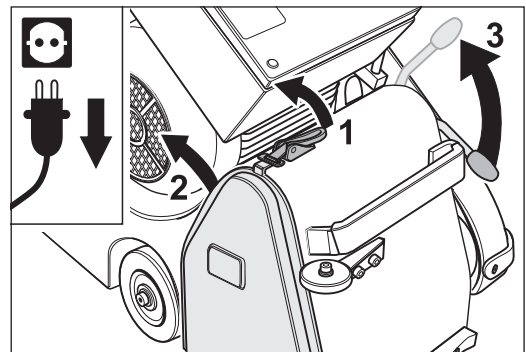

Fig. 85 Release the cover lock (1), remove the side cover (2) and lower the tensioning roller by pulling up the operating lever (3).
- 3 Release the cover lock (Fig. 85, 1) and remove the side cover on the right of the machine housing (Fig. 85, 2).
- 4 Pull the operating lever of the drive unit upwards (Fig. 85, 3). This will lower the tensioning roller.